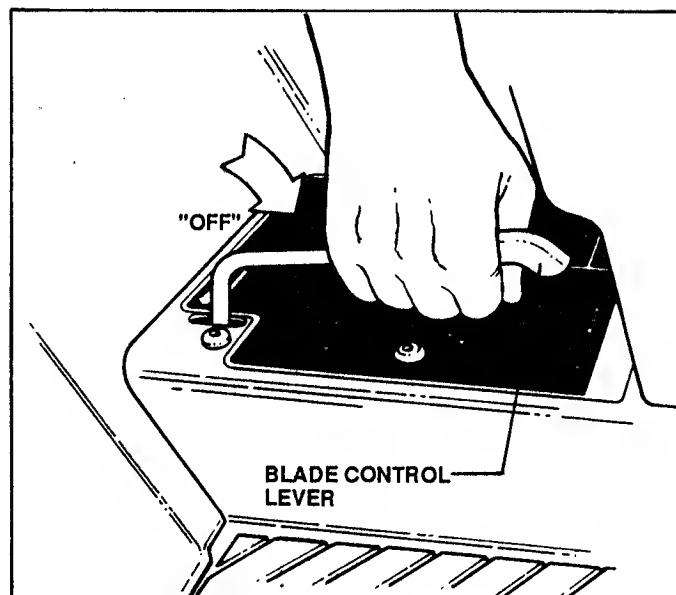
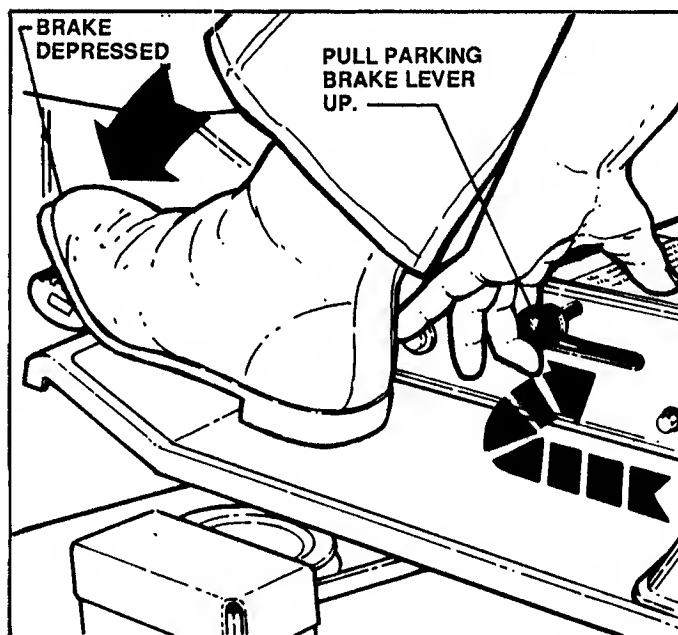

FIGURE 4
FIGURE 7
MOWER BLADE: *STOP MOWER BLADE* by pushing BLADE CONTROL lever downward to "OFF". See Figure 4.
1. PUSH **BLADE CONTROL LEVER** downward to "OFF" position (Fig. 4) and fully depress the **CLUTCH/BRAKE pedal** (Fig. 7), so that Safety Interlock System will allow engine to start.
Depress **CLUTCH/BRAKE PEDAL**. Pull **PARKING BRAKE LEVER** "UP" while releasing pedal. See Figure 7.